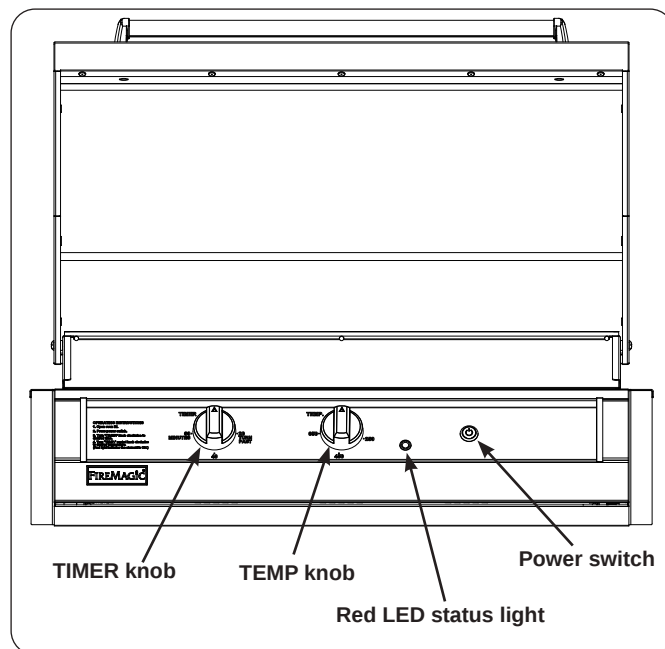
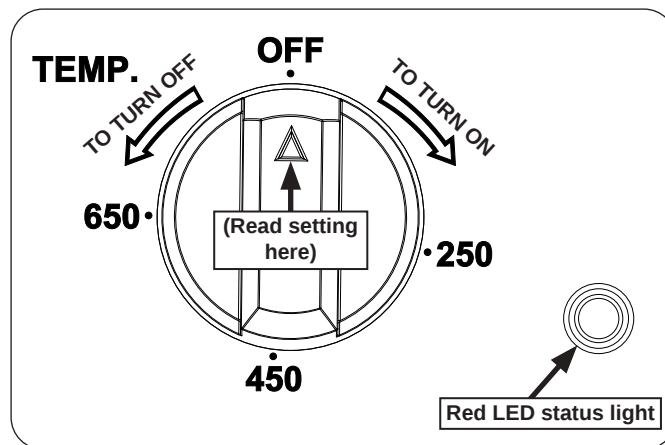

Fig. 37-1 Controls
Fig. 37-3 Temperature control
3. Press the power switch (see Fig. 37-1).
5. Turn the **TEMP** knob clockwise to the desired temperature. (The red LED status light indicates the heating elements are **ON**.) See Fig. 37-3.
To shut off the unit, turn the **TEMP** and **TIMER** knobs counterclockwise to the **OFF** position (see Fig. 37-3), THEN turn off the power switch.
For your convenience and safety, when the heating elements are on, the red LED status light will illuminate (see Fig. 37-1 and Fig. 37-3).